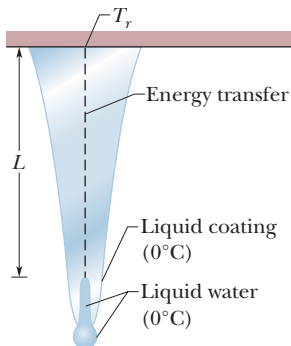

Figure 18-55 Problem 78.
**78 GO**  **Icicles.** Liquid water coats an active (growing) icicle and extends up a short, narrow tube along the central axis (Fig. 18-55). Because the water-ice interface must have a temperature of  $0^\circ\text{C}$ , the water in the tube cannot lose energy through the